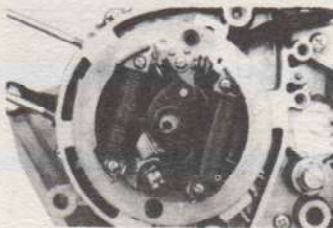

Fig. 3-25
3. Remove the two flush-head screws holding the flywheel base, and remove the flywheel base. (Fig. 3-25)